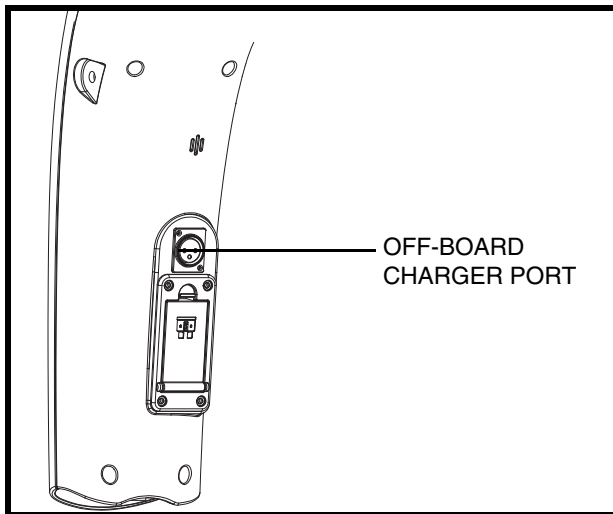

Figure 5. Off-board Charger Port
The off-board charger power lead plugs into this port during battery charging. The off-board charger port is located on the tiller. See **figure 5**.
4. Plug the 3-pin charger power lead into the off-board charger port. **See figures 5 and 10.**